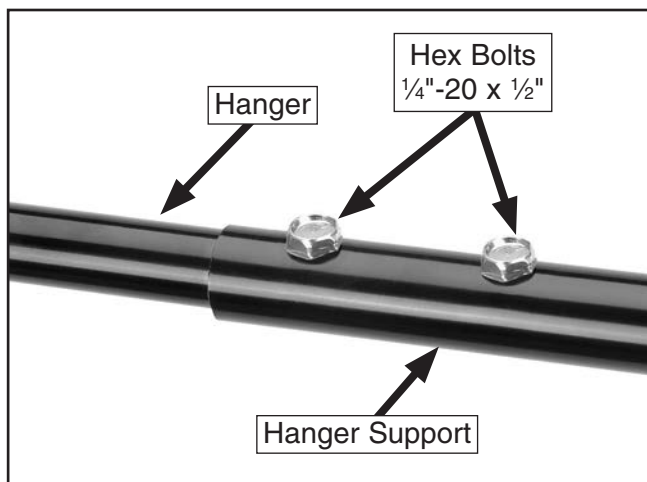

Figure 14. Hanger attached to hanger support (G0671/G0672 shown).
- Secure the hanger into the hanger support with one (Model G0673) or two (Model G0671/G0672) 1/4"-20 x 1/2" hex bolts (see **Figure 14**).